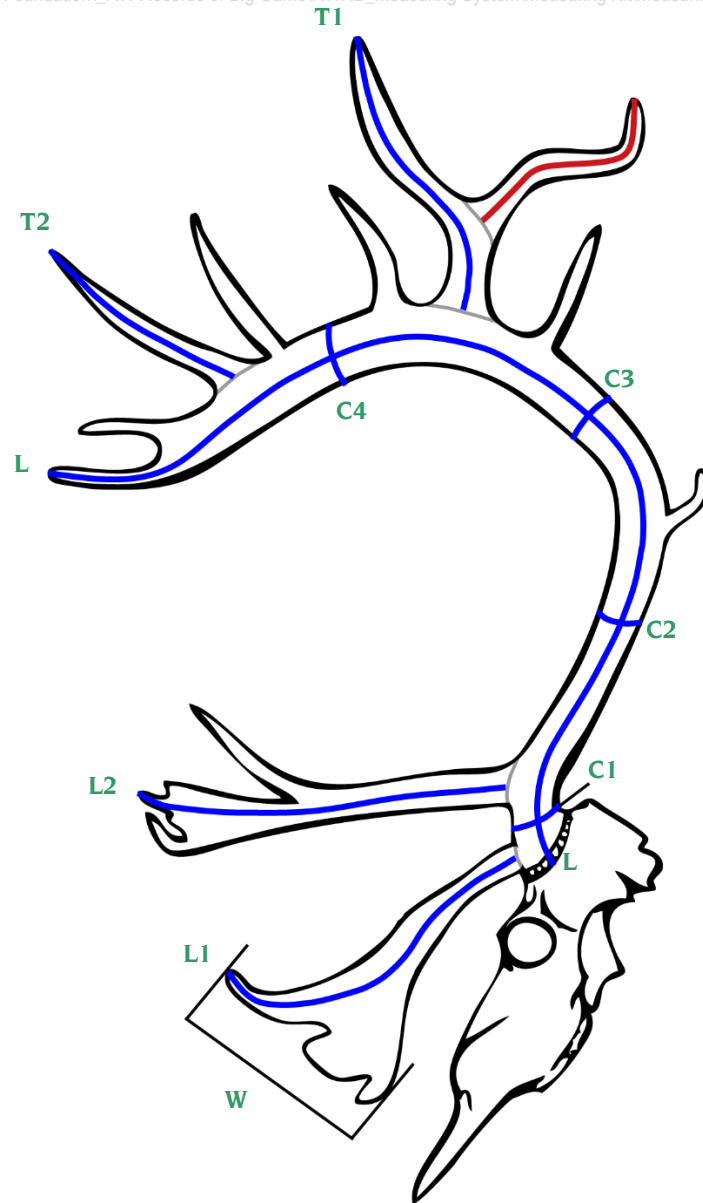

Figure 2
1. Length of the main beam. (For the main beam length measurement, a cable is better than a tape as the tape will likely need to be pivoted several times as it advances.) Start at the outside of the antler in the center between the eye socket and the ear canal on the lower edge of the burr (coronet). Do not press the cable into the L-shape groove found immediately above the burr where the antler beam starts. The tine pointing farthest forward on the top palm is the end of the main beam (Figure 2, L). On rare occasions this may be a tine going upward or backward. The main beam ending cannot be a tine from a tine (see the red line off T1 in Figure 2). The cable must follow the center line of the main beam until it reaches the top palm, where it must stay in the center of the palm (pre-mark the center points with a pencil and masking tape on the main beam and palm).
2. Length of the shovel and the bez. Measure to the farthest points from the main beam (Figure 2, L1, L2). Mark both off from the main beam like a tine from any deer (see GDI) and measure on the outside curves of the bez and shovel. Note that both the shovel and the bez can curve inward or outward.